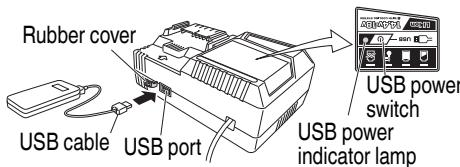

Fig. 9
(2) Turn the USB power switch ON (Fig. 9)
(3) Connect the USB cable. (Fig. 9)
- Turn the USB power switch OFF and unplug the power cord from the electrical outlet. (Fig. 9)